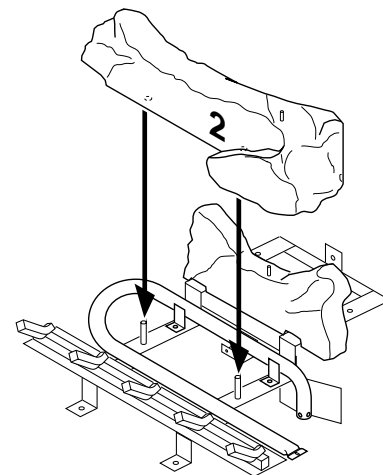

Figure 46 - Installing Log No. 2
- Rest log #2 (large front log) on the pins on the front part of the grate (see Figure 46).